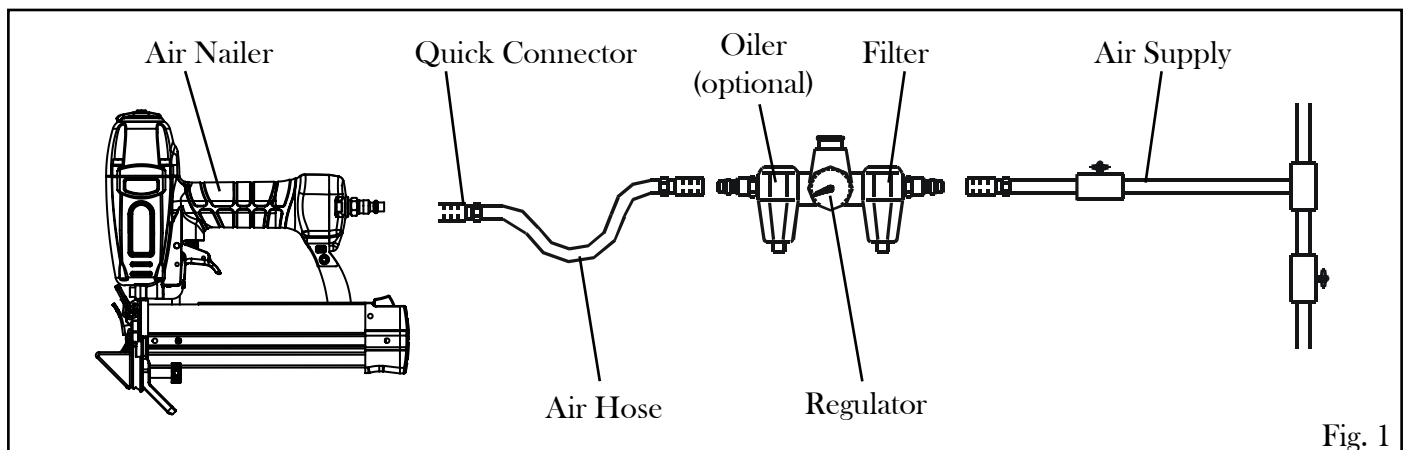

Fig. 1
Your air tool is fully assembled when you receive it. Before using it, attach the air line and desired air system accessories. See Fig. 1 for the recommended accessories and connection order. Be sure the air hose is depressurized when installing or removing adapters to the air line.
2. Turn the compressor on and set the Regulator (Fig. 1 - Regulator) to the proper pressure according to the size and type of fastener being used. The air pressure range should be between 60 PSI and 100 PSI.
3. Connect the tool to the air supply (Fig. 1).